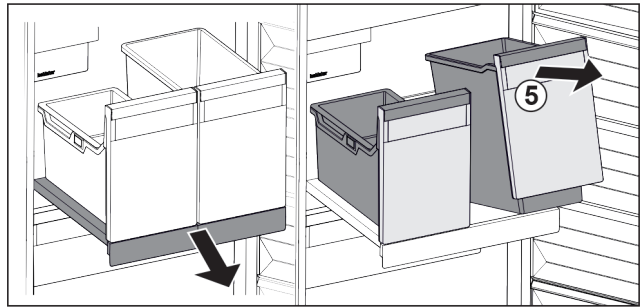

Fig. 194
- ▶ Lift the container Fig. 194 (5) at the front.